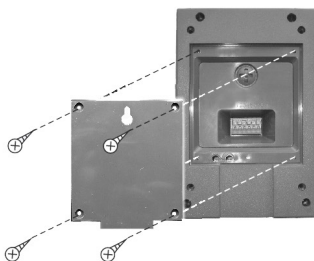

fig. 4
5. Take off the plastic back cover (fig. 4).
2. Take off the plastic back cover (fig. 4).